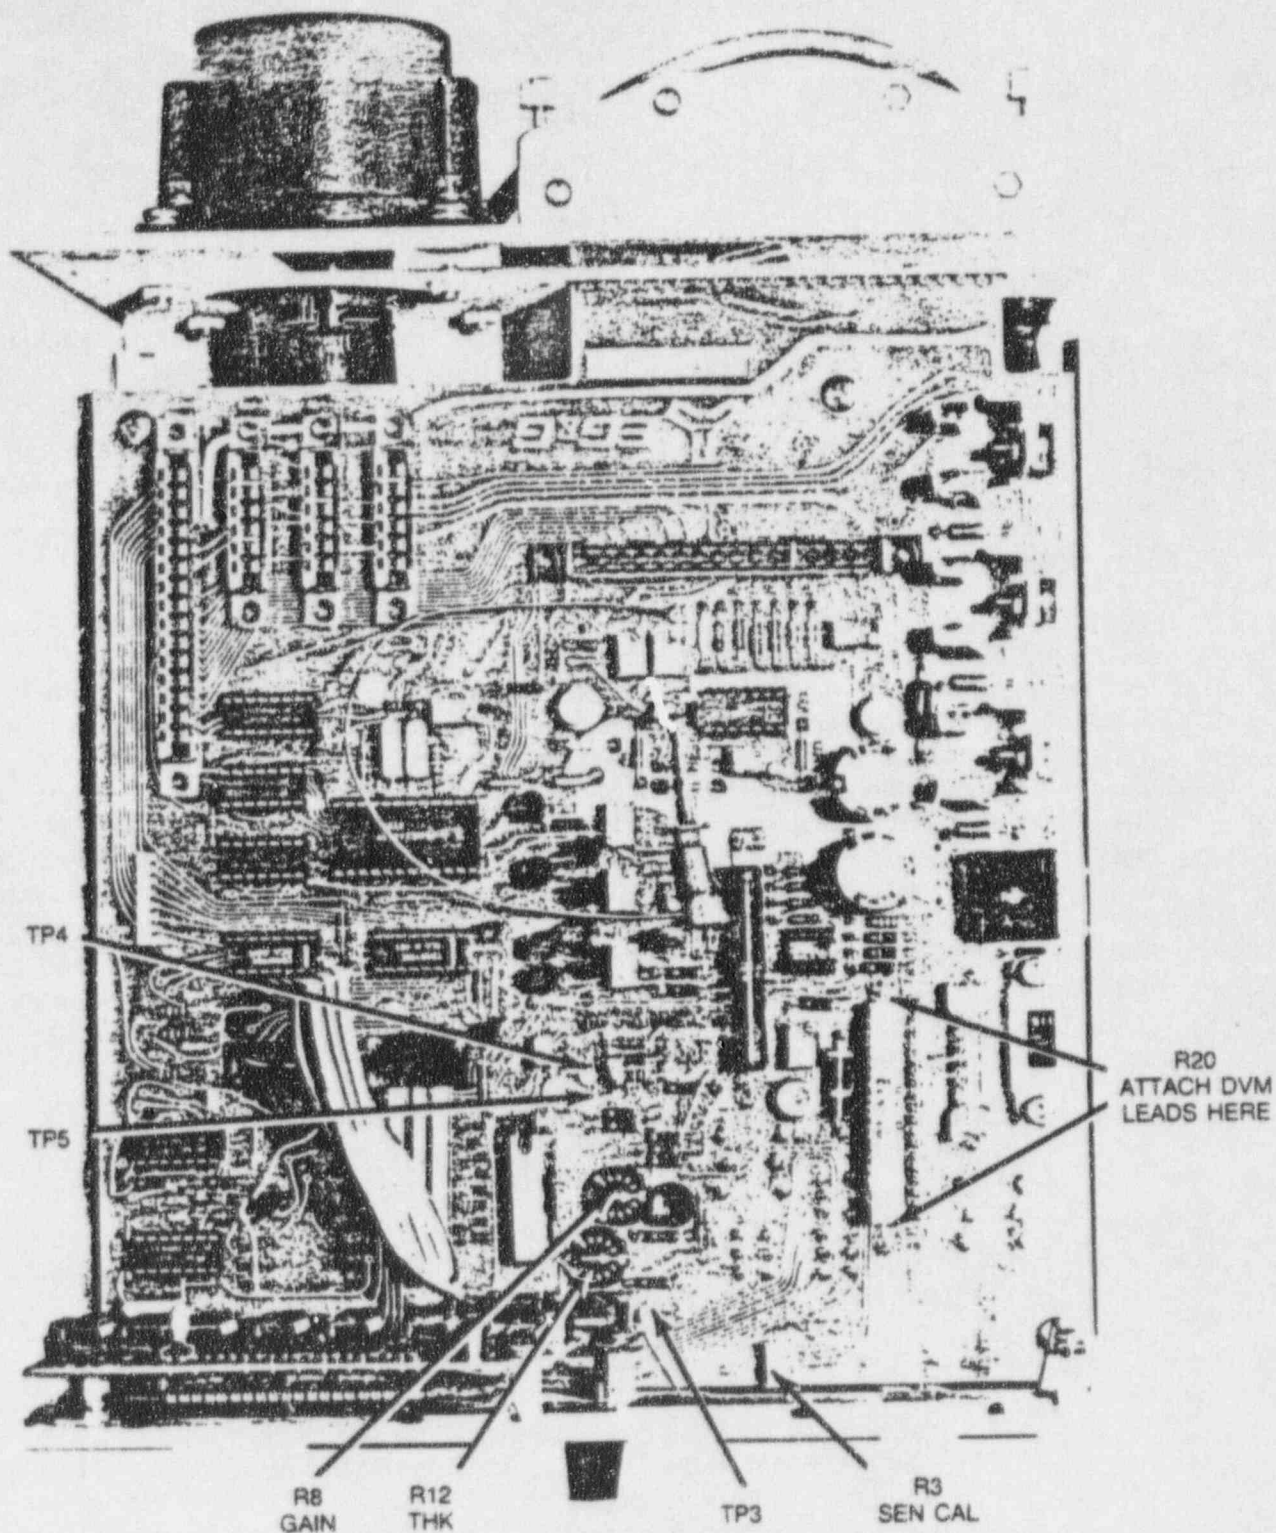

FIGURE 6-1. MODEL 911 MAIN ASSEMBLY
5. Place the instrument into operation by following the operating instructions as described in Section 3, with the following exception when necessary. After cleaning or changing sensors, reset the SEN CAL potentiometer (R3) positioned on the Main Circuit Card as shown in Figure 6-1 inside the instrument as follows:
2. Remove the cover from the Control Unit and place a digital voltmeter, set to read a voltage in the vicinity of 500 mVDC, across the leads of R20 (0.2 ohm) on the Main Circuit Card. Refer to Figure 6-1 for the location of the leads of R20.